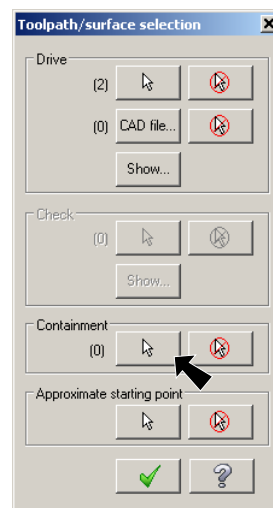

Fig. 7
Step 4. Click **Containment Select** button in the Toolpath/surface selection dialog box, Fig. 7.